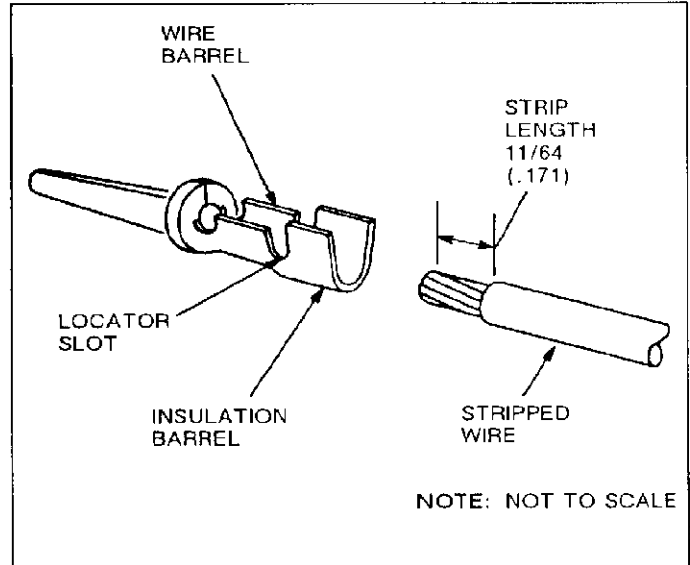

Fig. I-2
AMP Hand Crimping Tool 90206-3 is designed to crimp the Taper Pin loose-piece (LP) terminals listed in Figure I-2. Read these instructions carefully before proceeding.
Refer to the chart in Figure I-2, and then select wire of the specified size and insulation diameter. Strip the wire to the length indicated — do NOT cut or nick the wire strands.
This tool is designed to crimp only the loose-piece terminals listed in Figure I-2. Do NOT use the tool to crimp single terminals that have been cut from a strip.
1. Refer to the chart in Figure I-2, and select a terminal and a wire (maximum size) for each crimp section listed in the chart.
1. Select a terminal, wire (maximum size), and the designated crimp section for the wire you are using (see Figure I-2).